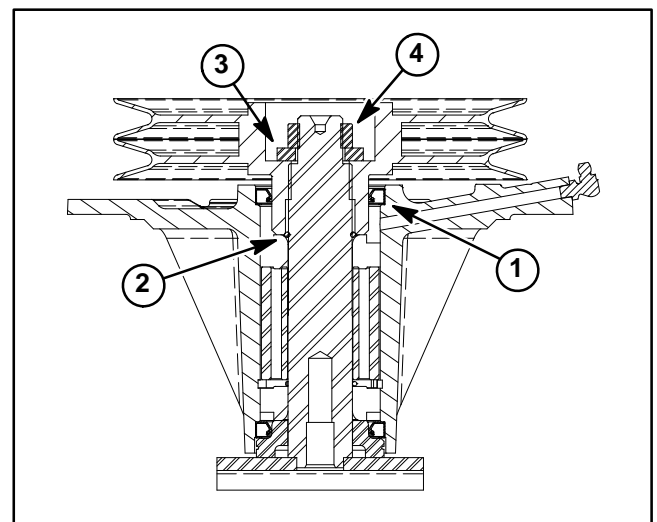

Figure 14
10. Install O-ring to top of spindle shaft (Fig. 14).
11. Install pulley (hub down), special hardened washer and lock nut to spindle shaft (Fig. 14). Tighten lock nut from **130 to 150 ft-lb (176 to 203 N-m)**.